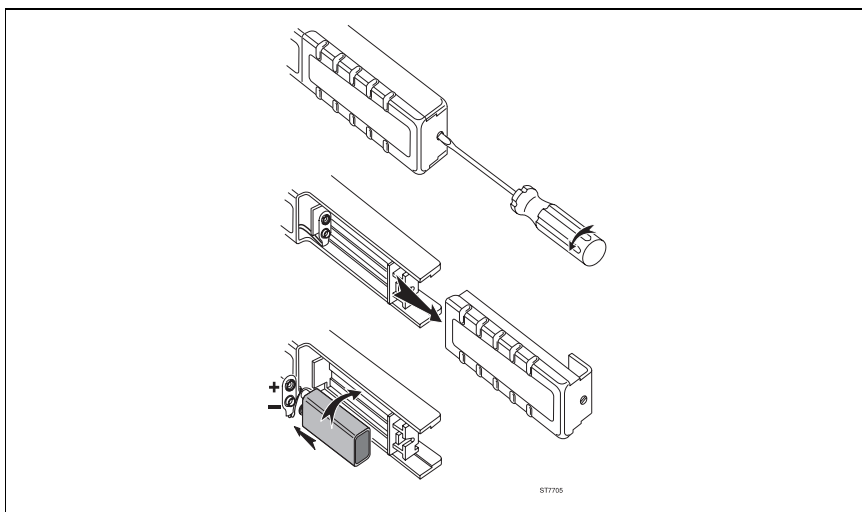

Figure 2. Installing the Battery
At first use, remember to install the battery. Referring to Figure 2, use the following procedure to install the battery:
3. Locate the battery cover on the handle. (see Figure 2.) Loosen the screw with a flat-blade screwdriver.
5. Install the battery (IEC 6LR61) as shown in Figure 2. Arrange the battery leads so that they will not be pinched between the handle bottom and the battery cover.